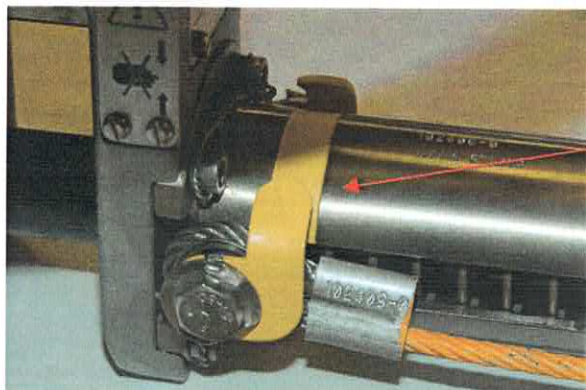
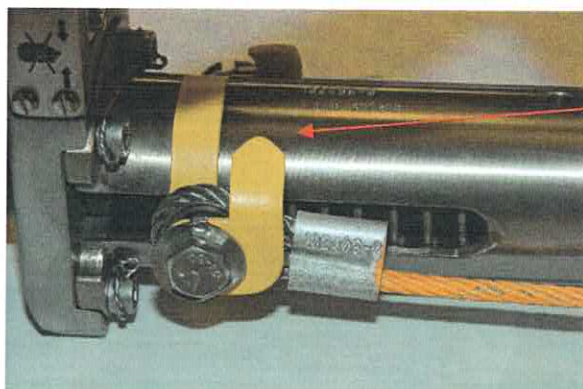

Fig. 7.4
Fig. 7.5
4. A visual check **MUST** be made at this point to ensure that the yellow pin indicator (arrowhead) is in alignment with the yellow strip marker on the spring housing (see fig. 7.4). If the yellow arrow and the yellow strip are not in alignment (see fig. 7.5) this may be due to the locking plate being lowered to locked "L" position prematurely – thus not allowing the pin to fully engage (see fig. 7.6).